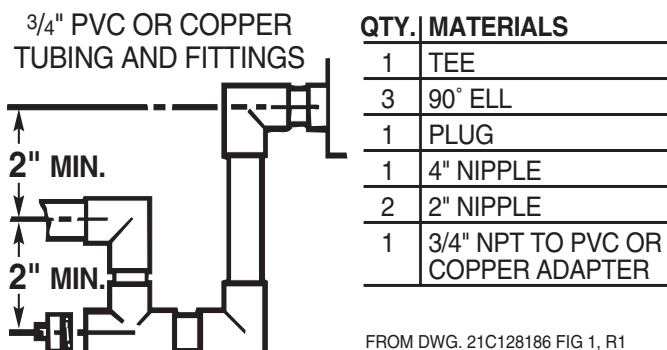

Figure 5. Typical Condensate Drain Piping
A 3/4-inch female NPT condensate drain connection is provided on the evaporator access panel end of the unit. Provide a trap and fill it with water before starting the unit to avoid air from being drawn through. Follow local codes and standard piping practices when running the drain line. Pitch the line downward away from the unit. Avoid long horizontal runs. See Figure 5, below.
Low voltage control wiring should not be run in the same conduit with the power wiring unless Class I wire of the proper voltage rating is used. Route the thermostat cable or equivalent single leads of No. 18 AWG colored wire from the thermostat subbase terminals through the rubber grommet on the unit. See Figure 1 for the control entry location. Make connections as shown on the unit wiring diagram and in Figures 5 and 6.
- The thermostat must provide a "G" signal for fan operation. If using an auto changeover thermostat, see Figures 5 and 6 for the appropriate connections.